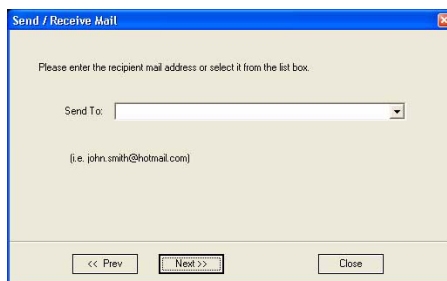

Figure 3-176 E-mail Address Window
- 3.) From the Email Address Window (Figure 3-176 on page 3-166), select the appropriate recipient address from the drop-down menu, or type the address in the **Send To** field.